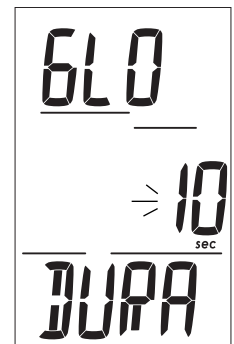

Fig. 34 - Set GLO
**Set Backlight Duration (Glo)**, information includes (Fig. 34):